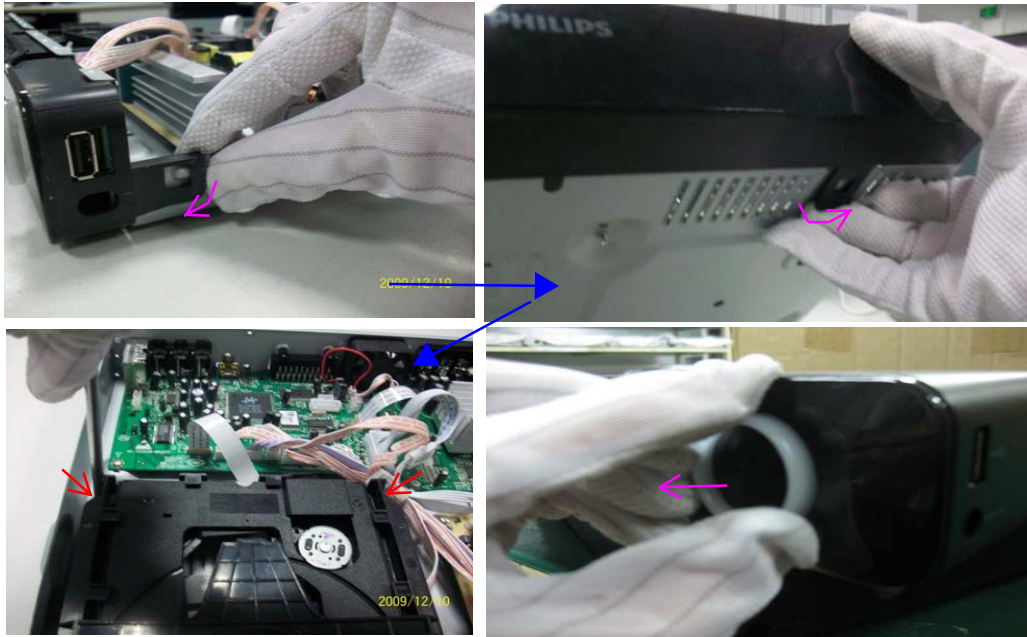

Figure 5
Step5: Dismantling Loader, disconnect the 3 connectors (XP12, XP13, XP14) aiming in the below figure, and remove 2 screws that connects the loader and the bottom cabinet. (Figure 5)
Dismantling the Turn Knob assembly, pls refer to below instruction, or poke it out at rearward by forceps. (The last steps of Figure 5)